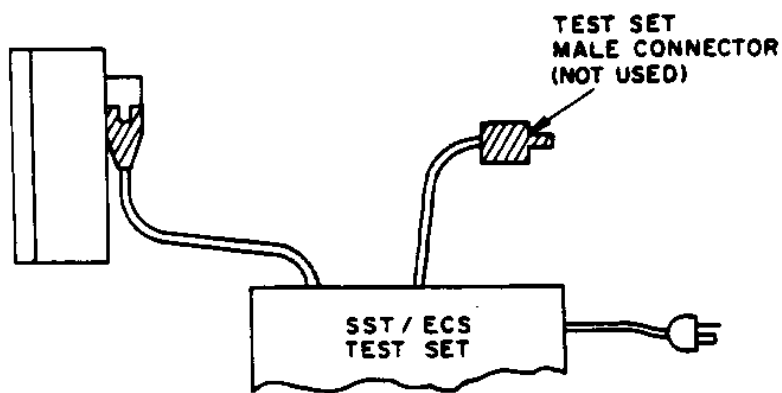

Fig. 3. Connection for Programmer Only test
**"Programmer Only" Test - Mode "A" (See Fig. 3)**